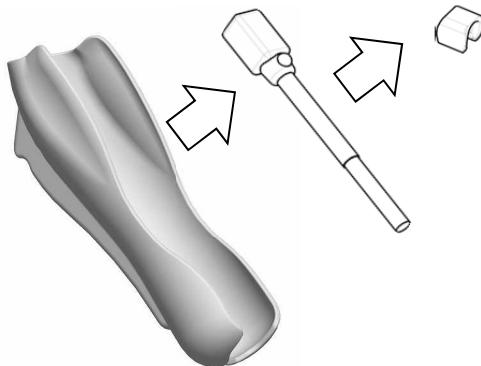

Fig. 11 How to release magnetic sensor from the Magnetic Sensor Attachment
- 2) Detach the magnetic sensor and the Spacer for EZU-RV2S from the Magnetic Sensor Attachment as shown Fig. 11.